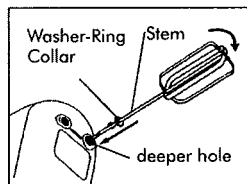

Figure 1
1. Push the Beater or Dough Hook with the Washer-Ring into the deeper hole. Rotate the Beater until it locks into position. (See Figure 1.)